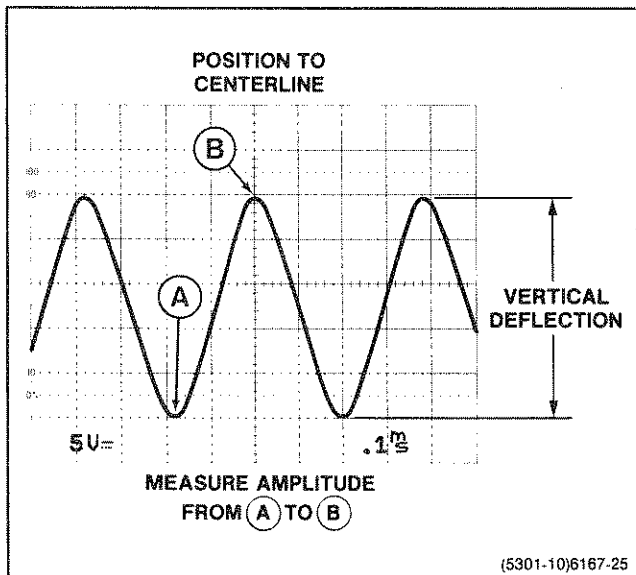

Figure 6-1. Peak-to-peak waveform voltage.
6. Vertically position the display so that the negative peak of the waveform coincides with one of the horizontal graticule lines (see Figure 6-1, Point A).
7. Horizontally position the display so that one of the positive peaks coincides with the center vertical graticule line (see Figure 6-1, Point B).
8. Measure the vertical deflection from peak to peak (see Figure 6-1 Point A to Point B).
EXAMPLE: The measured peak-to-peak vertical deflection is 4.9 divisions (see Figure 6-1) with a VOLTS/DIV switch setting of 5 V.